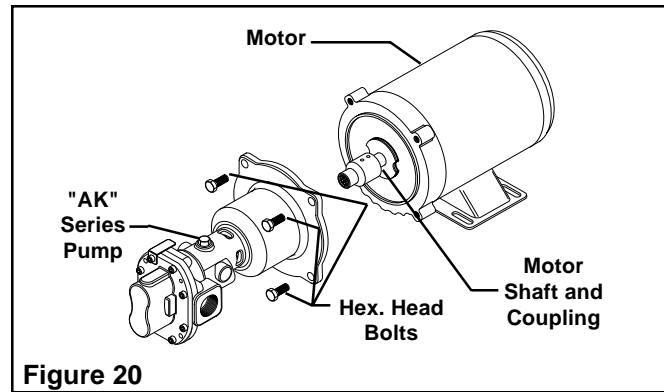

Figure 20
1. Remove the four Hex. Head Bolts securing the "AK" Series Pump to the Motor; then, slide the "AK" Series Pump off the Motor Shaft and Coupling (See Figure 20).